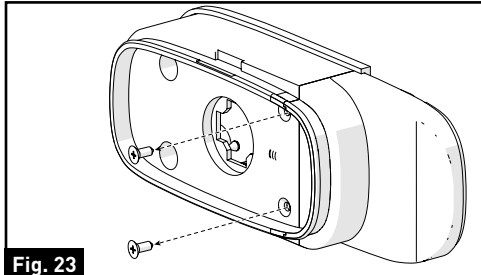

Fig. 23
3. Remove the two screws holding the decorative part using a Phillips-head screwdriver and set aside. (Fig. 23)